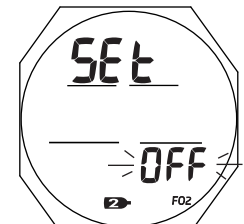

Fig. 38A - SET GAS 2
**Set Gas 2**, information includes (Fig. 38A, B):